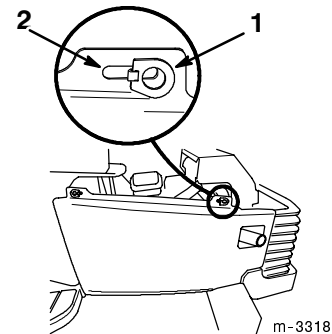

Figure 4
3. Lift up and twist each of the two side panel latches until they line up with the open slot (Fig. 4).